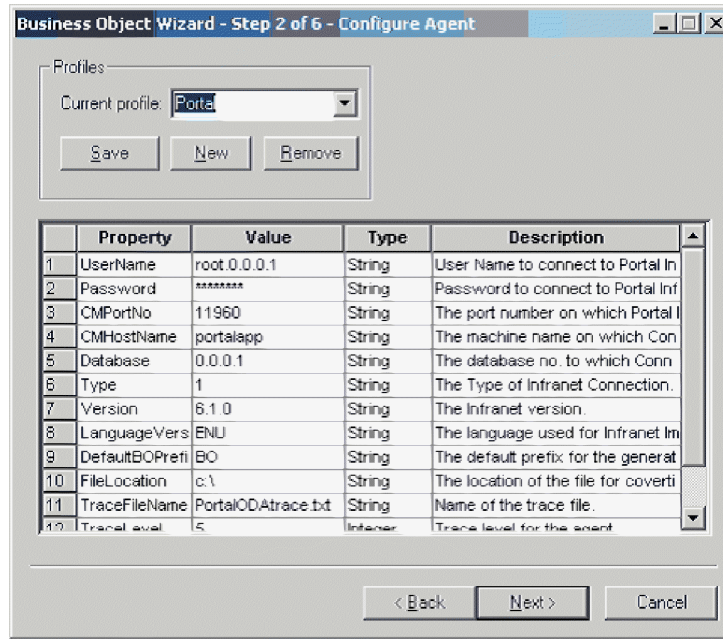

Figure 17. Configuring agent initialization properties
The first time Business Object Designer Express communicates with PortalODA, it prompts you to enter a set of initialization properties as shown in Figure 17. You can save these properties in a named profile so that you do not need to re-enter them each time you use PortalODA. For information on specifying an ODA profile, see the *Business Object Development Guide*.
- *Prefix*—The text that is prepended to the name of the business object to make it unique. If you are satisfied with the value you entered for the *DefaultBOPrefix* property in the Configure Agent window (Figure 17), you do not need to change the value here.